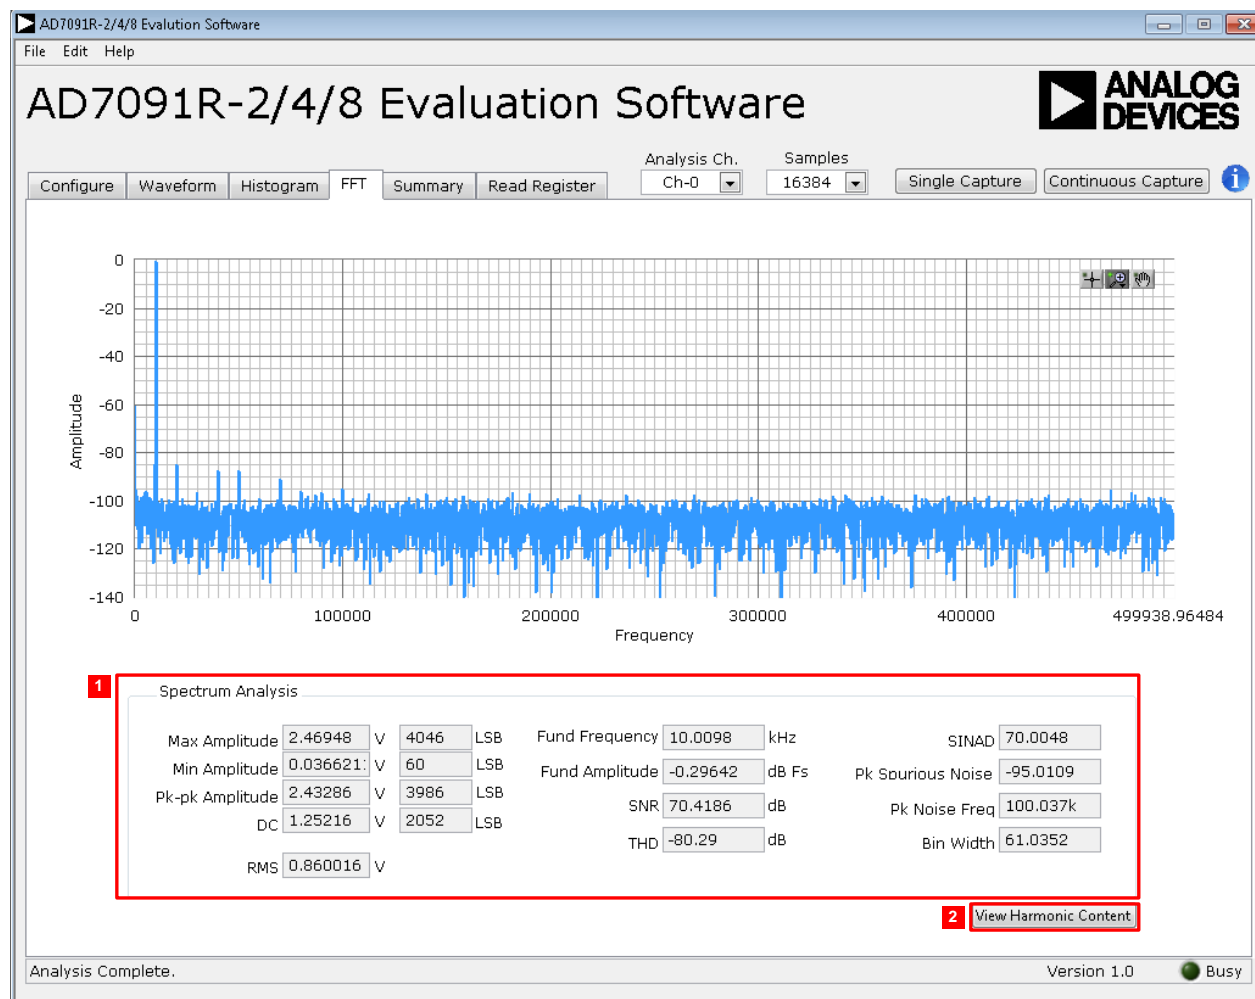

Figure 17. FFT Capture Tab
Figure 17 shows the FFT capture tab. This tests the traditional ac characteristics of the converter and displays a fast Fourier transform (FFT) of the results. As in the histogram test, raw data is captured and passed to the PC where the FFT is performed, displaying SNR, SINAD, and THD.
Figure 17 displays the spectral analysis results of the captured data.
- The **Spectrum Analysis** panel displays the performance data: SNR, THD, SINAD, dynamic range, and noise performance along with the input signal characteristics. See Label 1 in Figure 17.
- Select **View Harmonic Content** to switch the panel to display the frequency and amplitude of the fundamental in addition to the 2nd to 5th harmonics. See Label 2 in Figure 17.